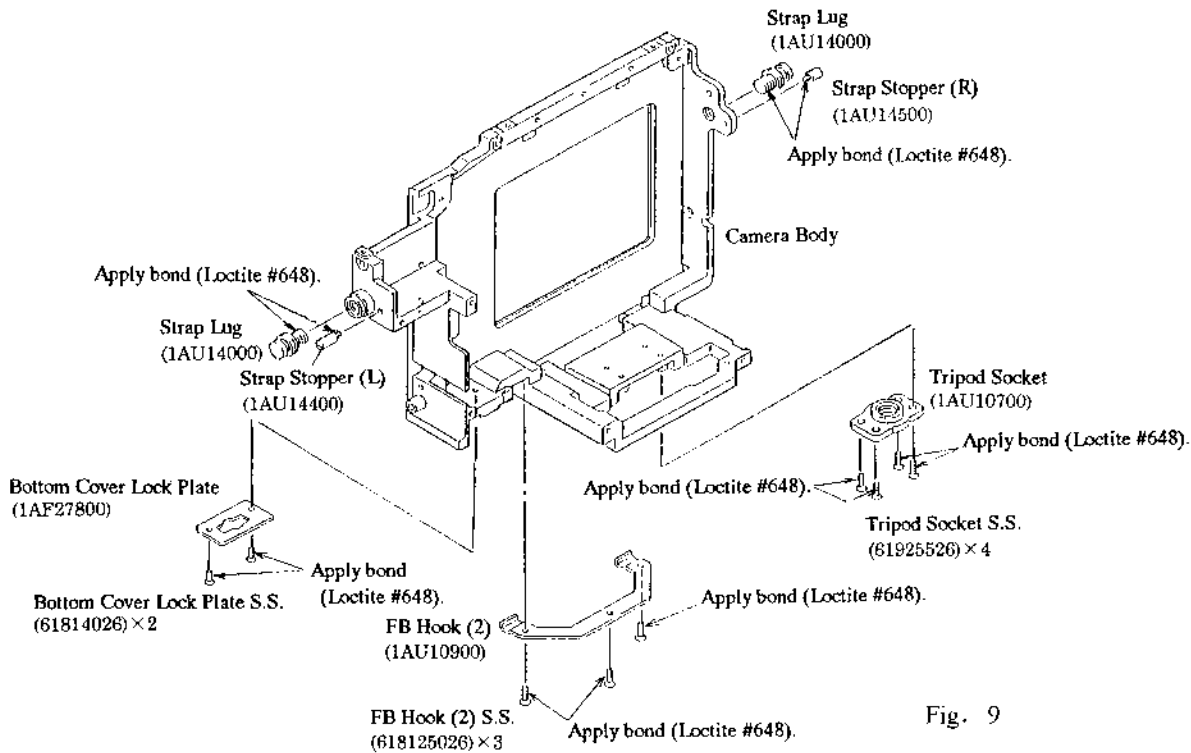

Fig. 9
- a) As shown in Fig. 9, apply the bond (Loctite #648) to the screws.